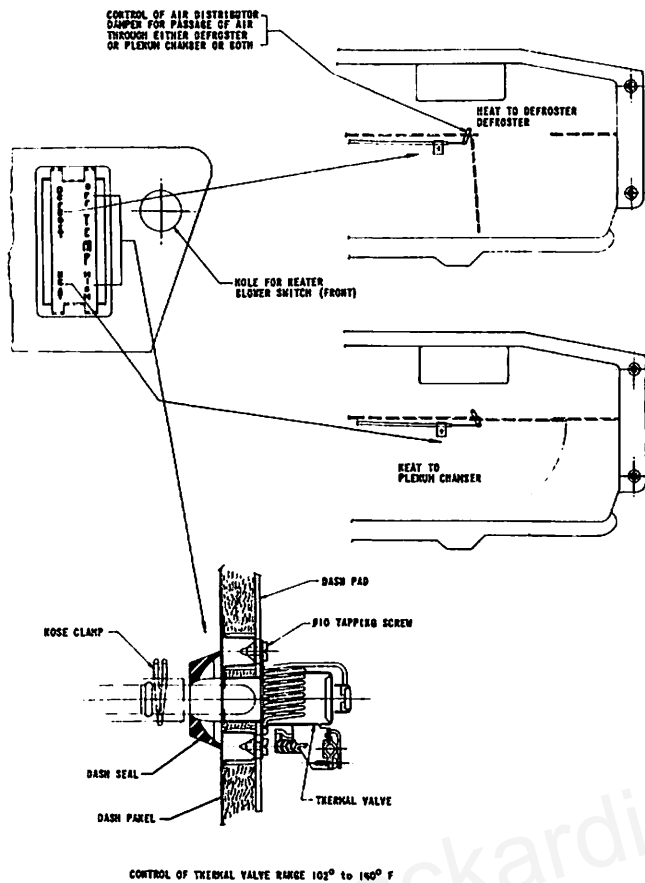

Figure 3
6. Assemble thermal valve assembly to dash panel using two No. 10 tapping screws as shown in figure 3.